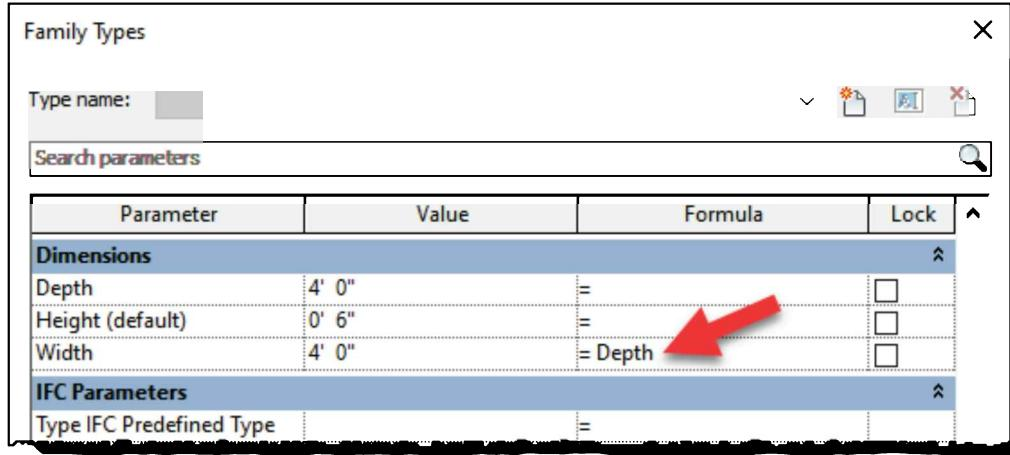

FIGURE 17-4.4 Modifying formula to control the width
11. Change the formula for *Width* to simply read **Depth** (see Figure 17-4.4).